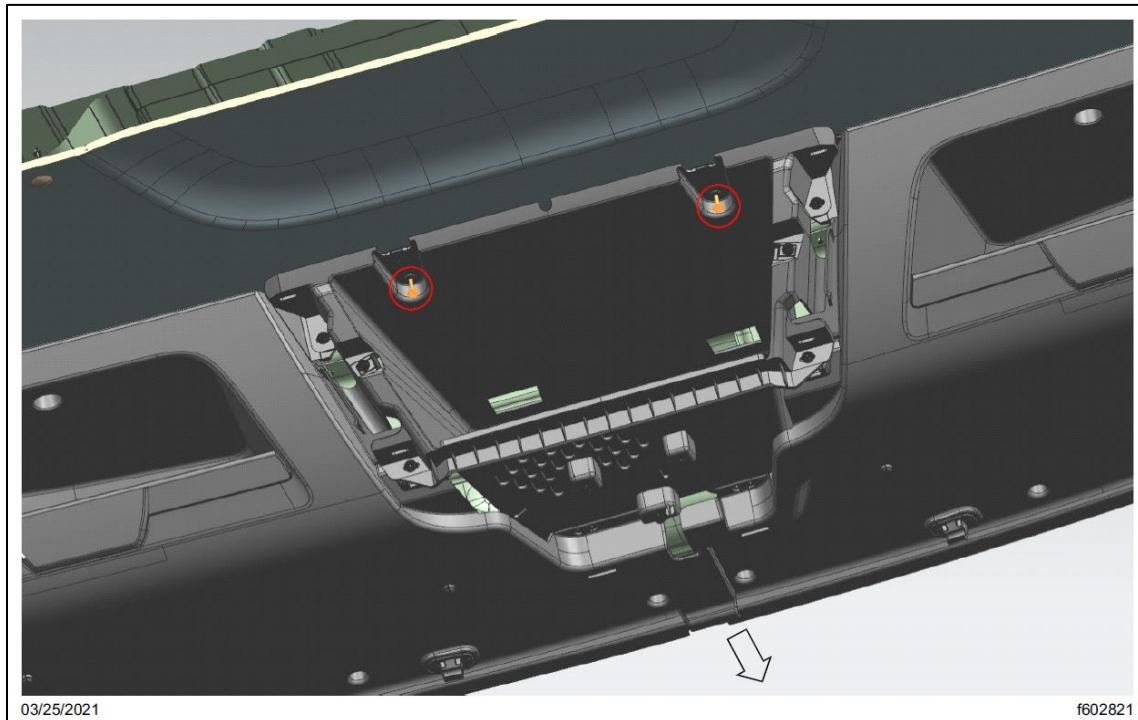

Fig. 28, Attach the Center Overhead Storage to the Cab Roof
7.3. Install the two fasteners that attach the center overhead storage bin to the cab roof as shown in Fig. 28. Tighten the fasteners 5 to 7 lbf.ft (6 to 9 N.m).